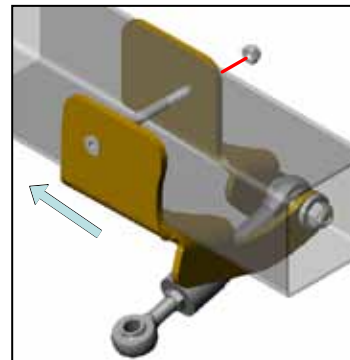

Figure 76
- Install supplied 1/4-20 x 3-1/2" L countersunk screw and 1/4-20 NyLoc nut through stiffener plates and frame. Securely tighten. Figure 76